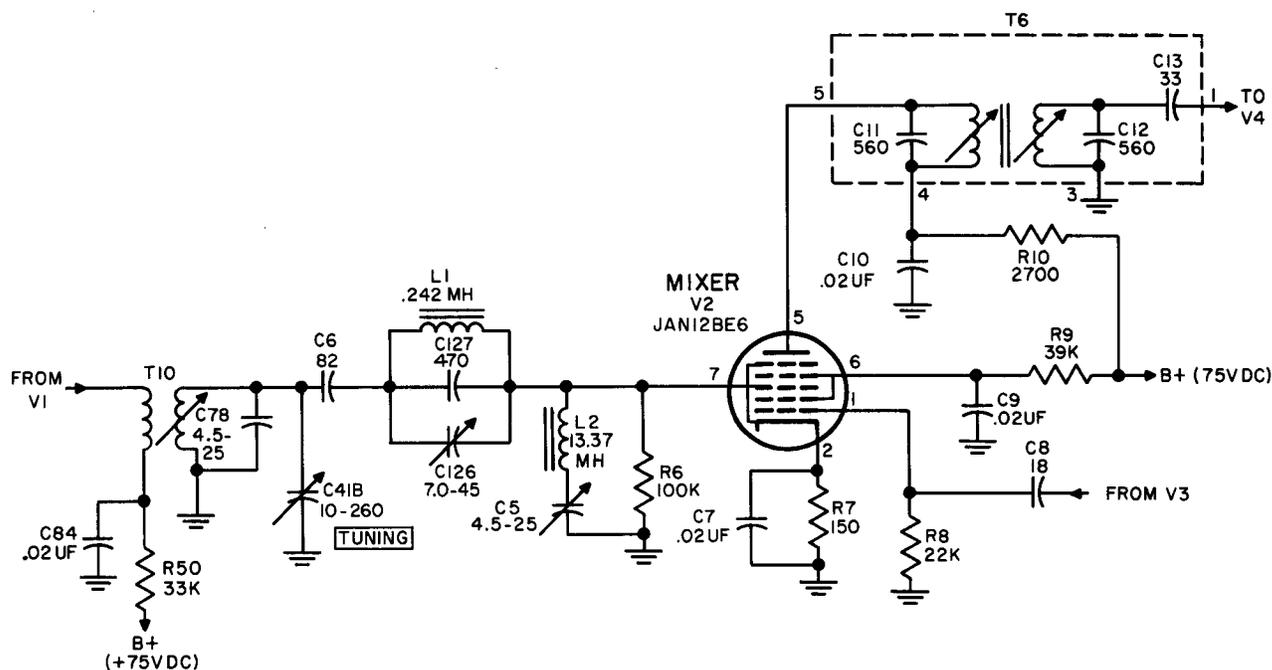
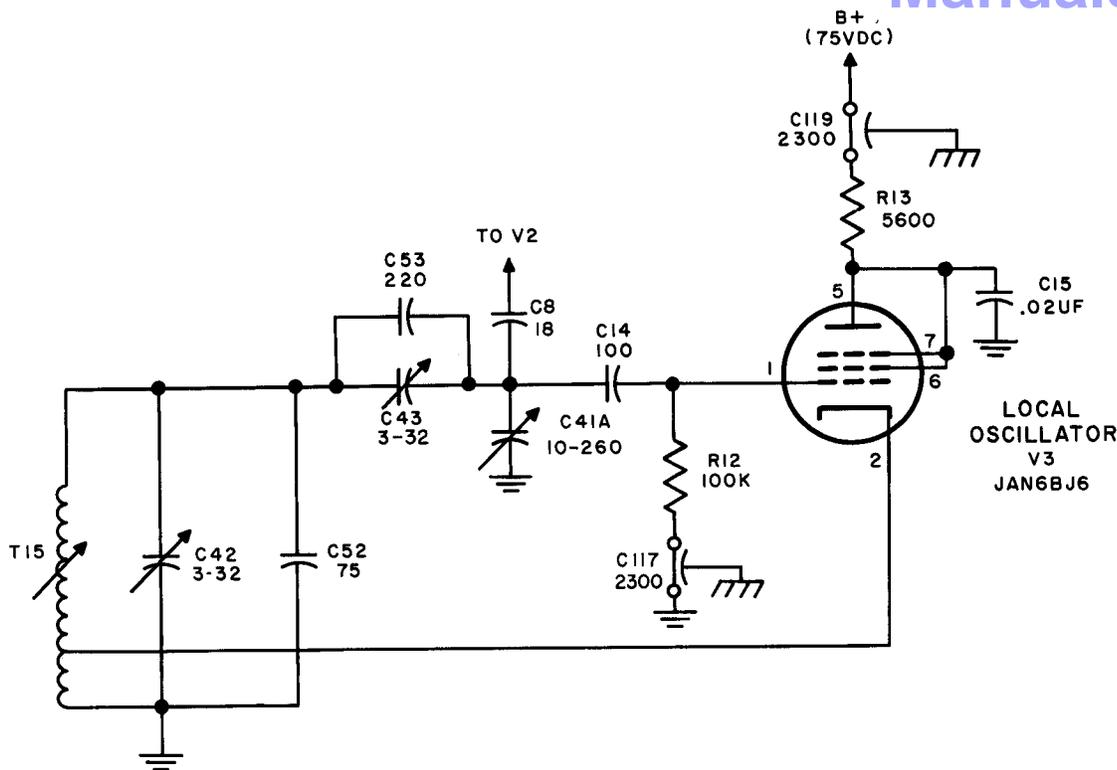

Figure 2-4. Mixer Simplified Schematic Diagram
Figure 2-5. Local Oscillator Simplified Schematic Diagram
c. MIXER. (Figure 2-4)
(1) The 12BE6 mixer tube (V2) heterodynes the amplified r-f signal from V1 and the signal from the local oscillator to produce sum and difference frequencies. The output of the r-f amplifier is coupled to the signal grid of V2 through a resonant tank circuit consisting of T10, C78 and TUNING capacitor C41B.
(2) Capacitor C6 isolates the 455-kc traps from the tank circuit. Inductance L1, capacitor C127 and capacitor C126 form a parallel-resonant trap having a maximum impedance at 455 kc. Inductance L2 and capacitor C5 form a series resonant circuit offering a low impedance to a 455-kc signal, thereby shunting the 455-kc signal to ground. Since 455 kc is the intermediate frequency of this receiver, these traps prevent 455-kc signal from the receiver (and other receivers) from interfering with the selected signal. R6 is the grid return to ground. C7 is the cathode r-f bypass capacitor, and cathode bias is provided by R7. The local oscillator signal from V3 is coupled to the oscillator grid of V2 through capacitor C8.
(3) Resistor R8 permits the proper operating bias to be developed on the injection grid by the local oscillator signal. R9 is the screen voltage dropping resistor and C9 is the screen r-f bypass capacitor. Plate decoupling is provided by resistor R10 and capacitor C10. Transformer T6 is tuned to 455-kc and transfers the signal to the grid of the 1st i-f amplifier.
d. LOCAL OSCILLATOR. (Figure 2-5)
(1) A Hartley oscillator circuit provides the required local oscillator signal injection into mixer tube V2. This circuit is recognizable by the cathode feedback tap on the coil T15. A triode-connected type 6BJ6 tube is used in this circuit.
(2) Tuning is accomplished with gang capacitor C41A, and adjustable trimming and padding is provided by C42 and C43, respectively. In addition, the inductance of T15 is adjustable with the adjustable tuning core in the coil. Temperature compensation is provided with C52 and C53. The padding provided by C43 and C53 is required because the local oscillator operates 455 kc above the r-f frequency. Consequently, a given change in the oscillator TUNING capacitor would provide a larger change in frequency than the tuning gang capacitors for the r-f and mixer stages. The series capacitance of C43 and C53 in series with C42 and C52 effectively reduces